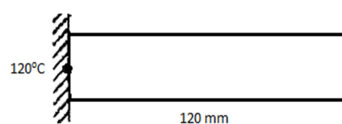

Figure 8
8. (a) Calculate the temperature distribution in a one dimension fin with physical properties given in Figure 8. The fin is rectangular in shape and is 120 mm long, 40 mm wide and 10 mm thick. Assume that convection heat loss occurs from the end of the fin. Use two elements. Take $k = 0.3 \text{ W/mm}^\circ\text{C}$; $h = 1 \times 10^{-3} \text{ W/mm}^2\text{ }^\circ\text{C}$, $T_\infty = 20^\circ\text{C}$. Assume unit area. [7M]